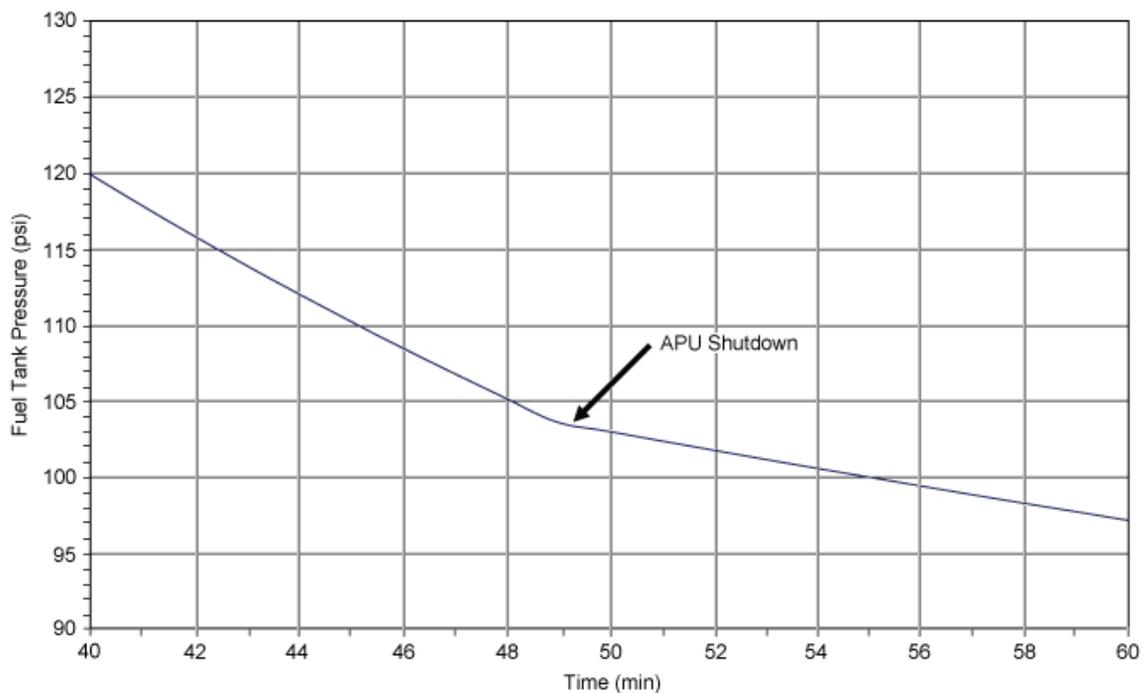

Figure 4: Fuel Tank Pressure vs. Time
F. As the MMACS flight controller, you notice an unusual trend in the fuel tank pressure vs. time plot indicating a possible leak. Since it is difficult to troubleshoot a leak while an APU is in operation, Mission Control will have the crew on board the space shuttle shut one APU down. Figure 4 represents the data from the APU.
- I. Based on the graph (Figure 4), how would you determine if there is a leak in the fuel tank?